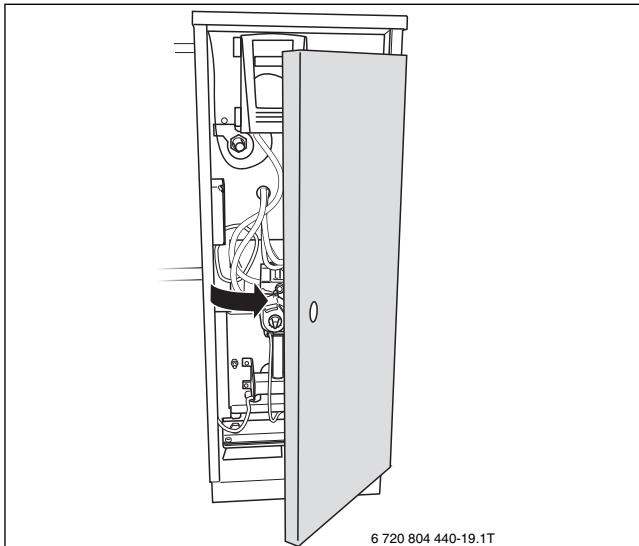

Fig. 19 Opening front door
- Open front door (→ figure 19).